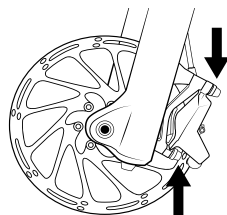
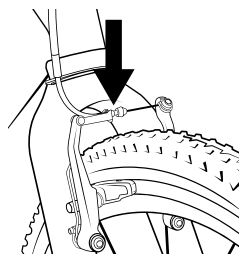

fig.11
fig.12
- 1) If your bike has rim brakes, disengage the brake's quick-release mechanism to increase the clearance between the tire and the brake pads (See Section 4.C fig. 11 through 15).
- 2) If your bike has rim brakes, disengage the brake's quick-release mechanism to increase the clearance between the wheel rim and the brake pads (see Section 4.C, figs. 11 through 15).
3. Some bicycle brakes, such as disc brakes (fig. 11) and linear-pull brakes (fig. 12), are extremely powerful. Take
Most rim brakes have some form of quick-release mechanism to allow the brake pads to clear the tire when a wheel is removed or reinstalled. When the brake quick release is in the open position, the brakes are inoperative. Ask your dealer to make sure that you understand the way the brake quick release works on your bike (see figs. 12, 13, 14 & 15) and check each time to make sure both brakes work correctly before you get on the bike.